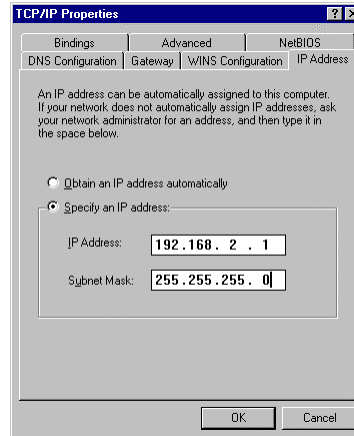

Figure 1.2.3 Example of TCP/IP Properties Dialog on Your PC
5. Select the "IP Address" tab on the TCP/IP properties dialog (see figure 1.2.3 for an example of what this dialog may look like).